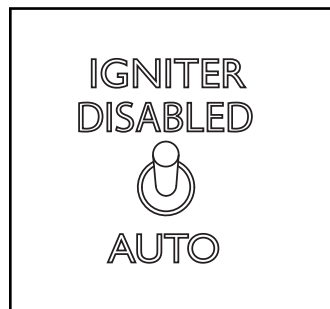
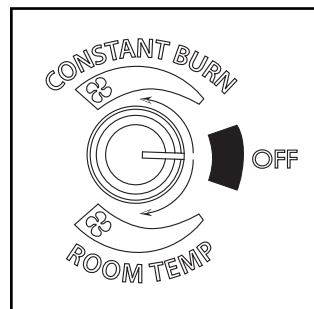

Figure 4.4
Figure 4.5
4. Flip toggle switch to desired mode “auto or Disabled”. Figure 4.4. Set Feed Limit knob to desired setting and turn mode dial to “Room Temp” or “Constant Burn” Figure 4.5. **Note:** Feed rate of #4 is a good starting point. Adjustments made need to be made depending on fuel quality and/or heat output desired.